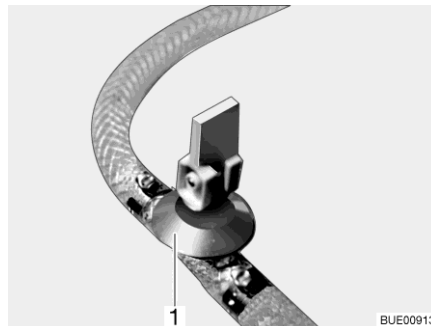
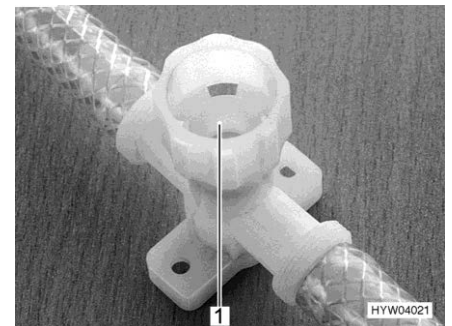

Fig. 250 Drain cock (with rocking lever)
Fig. 251 Drain cock (with twist cap)
- Close all drain cocks. To do this, position the drain cock's rocking lever (Fig. 250,1) horizontally or turn the drain cock's cap (Fig. 251,1) in a clockwise direction.